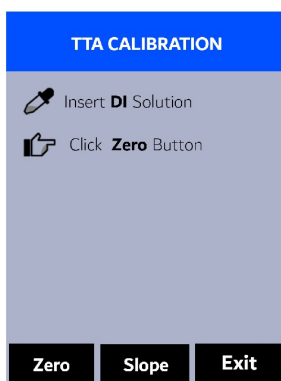

Figure 4.
3. Press **Calib** ( or ) to launch the **TTA CALIBRATION** screen (Figure 4).